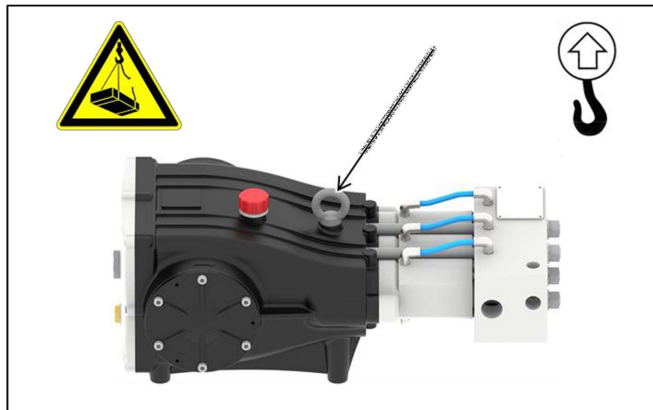

Figure 10: Lifting eyebolt
- Only lift the pump from the slinging point provided for transport (Figure 10).